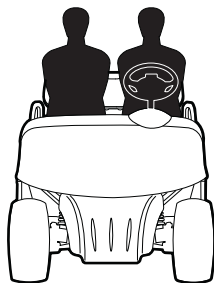

Figure 7 Equally Load Vehicle
1. Equally load both sides of the vehicle (Ref. Figure 7) and apply maximum force and travel to the service brake pedal while moving.